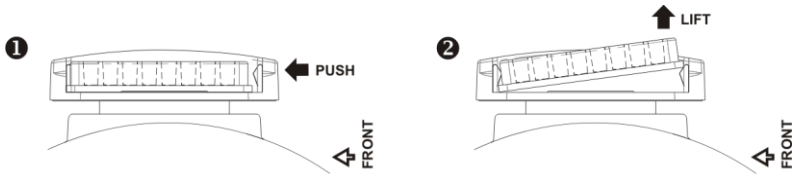

Fig. 2. Platform or plate removal
Remove the platform or plate by pushing the rear end of platform/plate into spring clamps (fig. 2/❶) and lift the front edge up (fig. 2/❷).